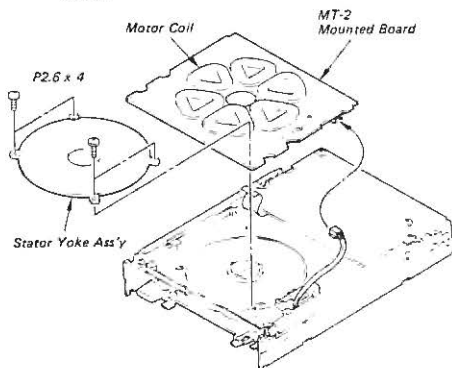

Fig. 4-4 MT-2 Mounted Board Replacement
- b. Remove the four screws (P2.6x4) securing the Stator Yoke Ass'y and then remove the Stator Yoke Ass'y. (Refer to Fig. 4-4)
- d. Install the Stator Yoke Ass'y on MT-2 Mounted Board with four screws (P2.6x4), not to damage to six motor coils for disk motor. (Refer to Fig. 4-4)
- a. Remove the four screws (P2.6x4) securing the stator yoke ass'y and then remove the stator yoke ass'y. (Refer to Fig. 4-4)
- d. Install the stator yoke ass'y on MT-2 mounted board with four screws (P2.6x4), not to damage to six motor coils for disk motor. (Refer to Fig. 4-4)